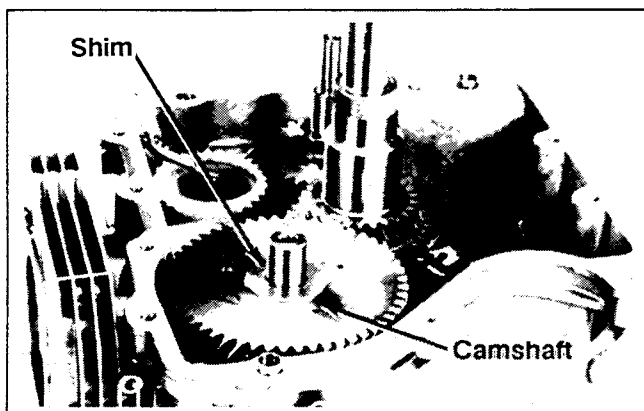

Figure 9-38. Removing Camshaft.
- Remove the camshaft and shim. See Figure 9-38.